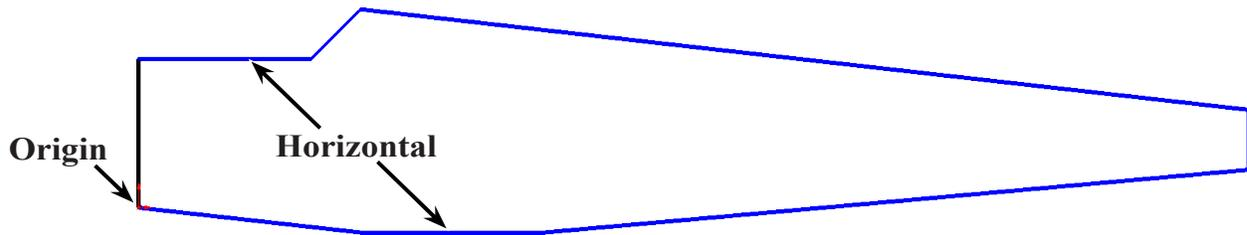

Fig. 2
Step 4. Starting at the Origin  sketch lines in **Fig. 2**. Use the inferencing line, the dotted line that appears when you sketch the lines to keep the top of the motor compartment horizontal. Do not add any extra lines. If you make a mistake, use Undo, **Ctrl-Z**.